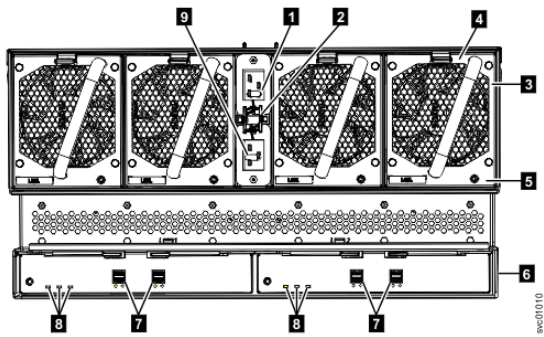
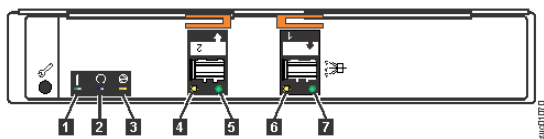

Figure 190. LEDs on the back of the expansion enclosure
Figure 191. LEDs on the back of the expansion canister
Table 68 on page 224 explains the function and status that is indicated by each of the LEDs. The power cords for each PSU are accessible from the rear of the expansion enclosure (1), as shown in Figure 190 on page 226.
Figure 190 on page 226 shows the rear view of a expansion enclosure. LEDs on the rear of the enclosure provide information about each fan module, each expansion canister, and SAS links.
The expansion enclosure has four fans. Each fan has one LED; for example, Figure 190 on page 226 shows the location of the LED (5) for fan number four. When a fan is operating normally, the LED is not lit. If a fault is detected, the amber LED is lit.
As Figure 190 on page 226 also shows, the expansion enclosure contains two expansion canisters. Each expansion canister contains its own set of LEDs, as shown in Figure 191 on page 226. The LEDs provide status information about the expansion canister itself and the SAS connections.